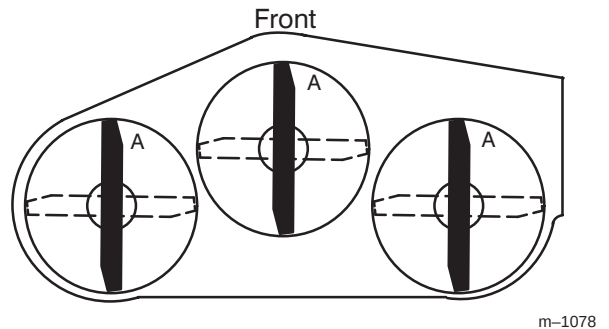
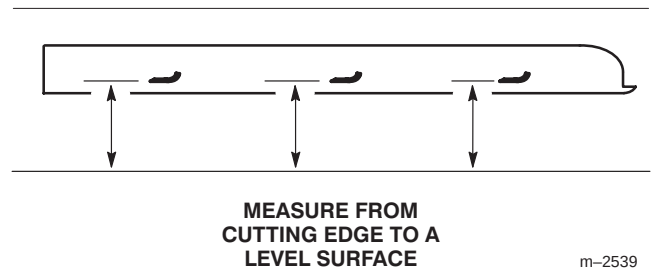

Figure 39
Figure 40
1. Rotate the blades until the ends face forward and backward (Fig. 39). Measure from a level surface to the cutting edge, position "A", of the blades (Fig. 40). Note this dimension.